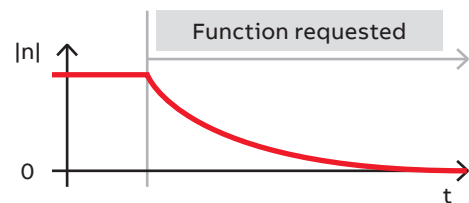

Figure 1. Upon activation STO immediately switches off the drive output to the motor. Motor speed then coasts to a stop.
**Safe stop emergency (SSE)** is a safety function specifically designed for emergency stops. SSE can be configured to execute either STO or SS1 depending on which emergency stop is suitable for the system. For examples of this functionality see Fig. 1 or 2.